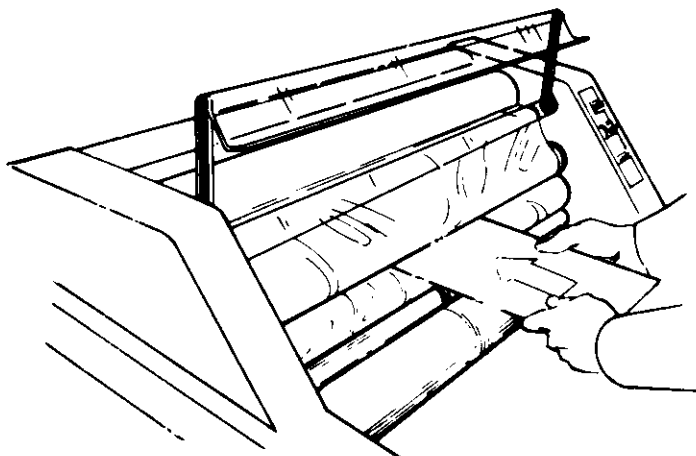

FIGURE 8
17. Place threading card against film at nip point of upper and lower heat rollers. Push threading card into the nip point of the heat rollers. Continue pushing the threading card until the leading edge of the card contacts the nip point of the pull rollers (see figure 8).